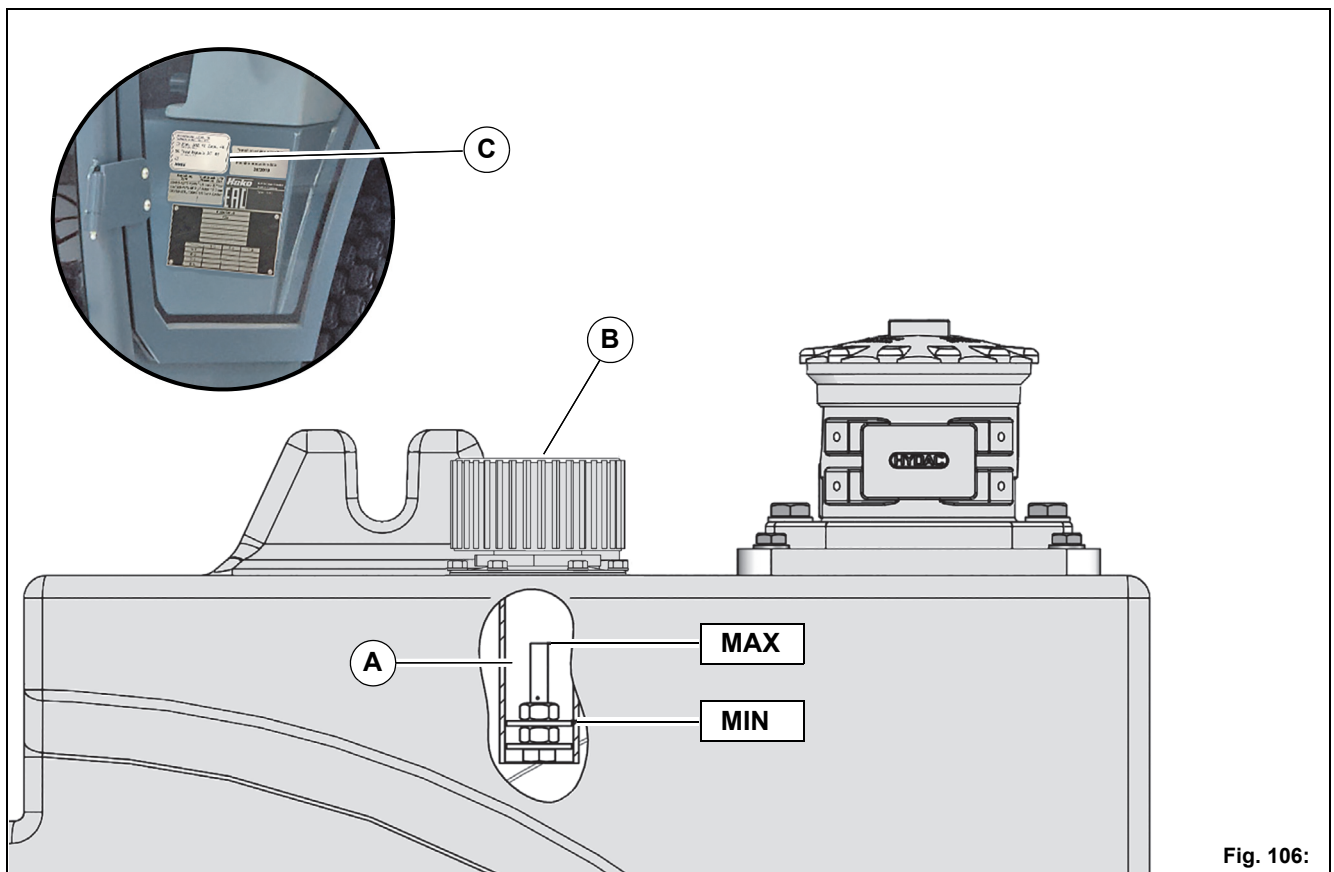

Fig. 106:
Check the hydraulic oil level weekly at the level indicator **Fig. 106-A** and top up as required. Use only hydraulic oils approved by the manufacturer (HVLP 46) e.g. Mobiloil DTE 10 Excel.
3. Unscrew the cap **Fig. 106-B** and top up with hydraulic oil.
The specification of the grade of hydraulic oil added in the factory can be found on an adhesive plate in the vehicle cab **Fig. 106-C**. Only use the identical hydraulic oil for topping up. Mixing different hydraulic oils is not permitted. This would reduce the efficiency and reliability of your machine. Hydraulic components could be damaged. If all of the hydraulic oil is replaced, the usual procedures must be noted (e.g. flush several times, maximum residual hydraulic oil content: 2 %). Note the name of the new hydraulic oil on the existing adhesive plate with a permanent marker. If the vehicle is used under different climatic conditions than when the initial filling took place (e.g. HVLP 46 for central European conditions), hydraulic oil with a different viscosity class must be used.